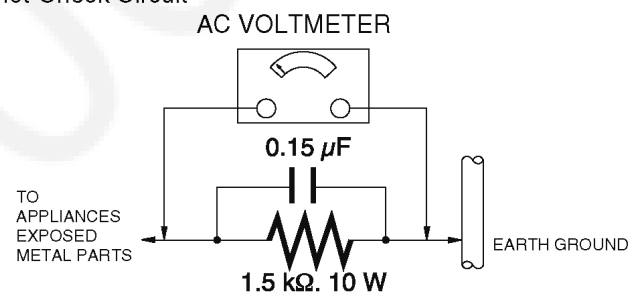

Figure. 1
## 1.3. Leakage Current Hot Check (See Figure. 1)
2. Connect a  $1.5\text{ k}\Omega$ , 10 W resistor, in parallel with a  $0.15\text{ }\mu\text{F}$  capacitor, between each exposed metallic part on the set and a good earth ground, as shown in Figure. 1.